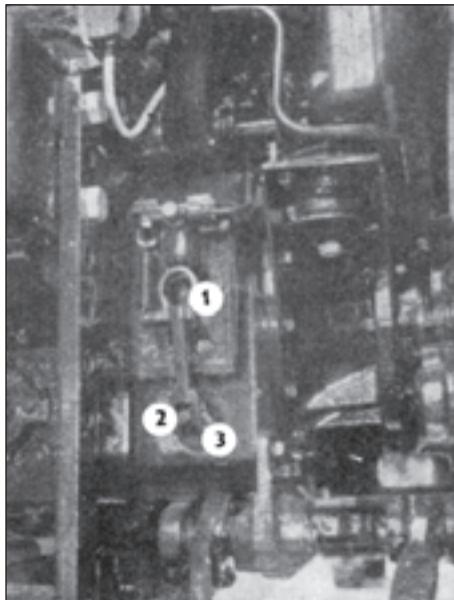

Fig. 190
After removing the cover from the brake cylinder, adjust the self-locking adjusting nuts (Fig. 190/1) on the right and the left side as follows:
- tighten the self-locking adjusting nut (Fig. 190/1) until it is no more possible to rotate the rear wheel by hand,
Repeat the same procedure on the other wheel. This adjustment can be repeated several times during the tractor operation, but when the end of the draw rod protrudes the adjusting nut (Fig. 190/1) by 10 mm or when the braking effect decreases (the disk brake lugs bear against the bearing surface of the brake housing), the brakes are to be inspected and the brake plates replaced.
After the adjustment of the foot brake check the hand brake state. The hand brake lever (Fig. 48/1) has to be in its basic (brake-off) position. The self-locking nut on the hand brake rod (Fig. 190/2) must be in contact with the brake lever pin (Fig. 190/3), if not, carry out the supplementary adjustment, however, take care not to move the disk brake lever from its basic position.
After completing this basic adjustment check the effectiveness of the foot brakes, whether both brakes have the same effect. If not, slacken the adjusting nut (Fig. 190/1) on the brake with the greater braking effect by the necessary value, but not more than by 1 turn.
Notice: Replace the self-securing adjusting nut M 12 (Fig. 190/1) by a new one every time when dismantling the brakes. Replace the self-securing adjusting nut M 8 (Fig. 190/2) by a new one every time when dismantling the hand brake draw rod.